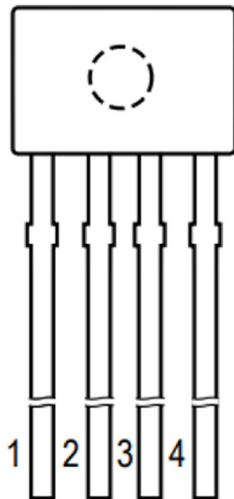

Figure 10: Package Pinout Diagram (ejector pin mark on opposite side)
- Ensure that the ejector pin mark is on the side facing down into the socket as stated in the pinout diagram in the ACS70311 datasheet (see Figure 10).